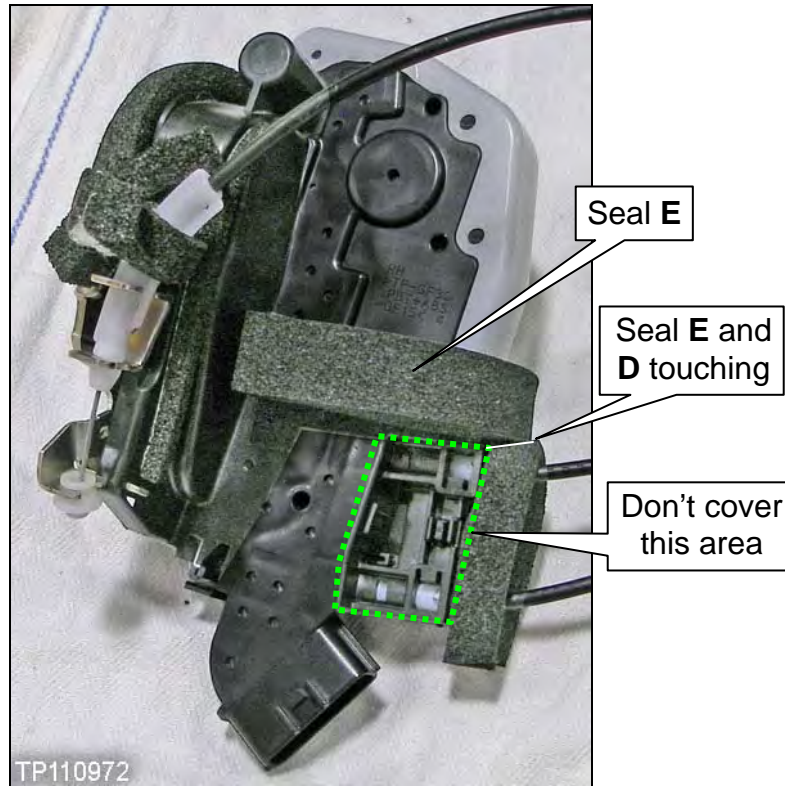

Figure 16
- c. Wrap the seal around the assembly body (go to next page, Figure 16).